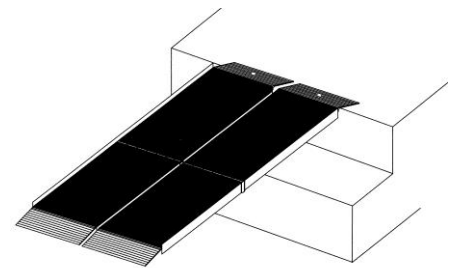

FIGURE 3
- Unfold second top half of ramp so that both halves are fully extended lengthwise with one half lying face down on top of the other. NOTE: Applied slip-resistant tread should NOT be exposed at this time. Open complete ramp, exposing entire applied slip-resistant tread surface, then center on landing as shown in FIGURE 3.